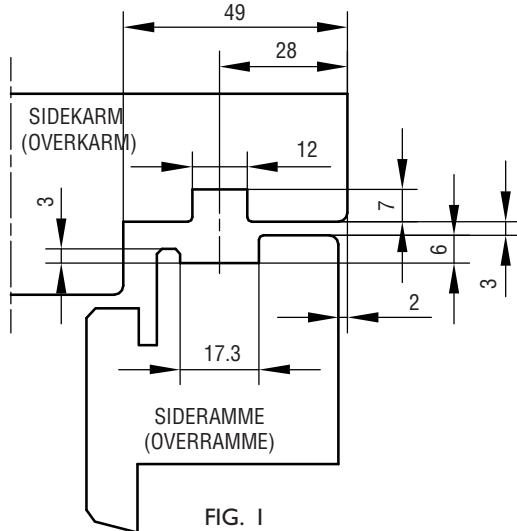

FIG. 1
- 21167: SIDESTYKKE I KARM OG RAMME FORSYNES MED GENNEMGÅENDE NOTER, SE FIG. 1 + 2.
21178 & 88: SIDE- OG ØVERSTE KARM OG RAMME FORSYNES MED GENNEMGÅENDE NOTER, SE FIG. 1 + 2.
21167: HVIS DEN ØVERSTE RAMME ER FORSYNET MED SPOR, FIG. 1, ANBRINGES FØRST DE MEDSENDTE AFSTANDSSTYKKE YDERST I HVER SIDE AF OVERRAMMENS NOTER.